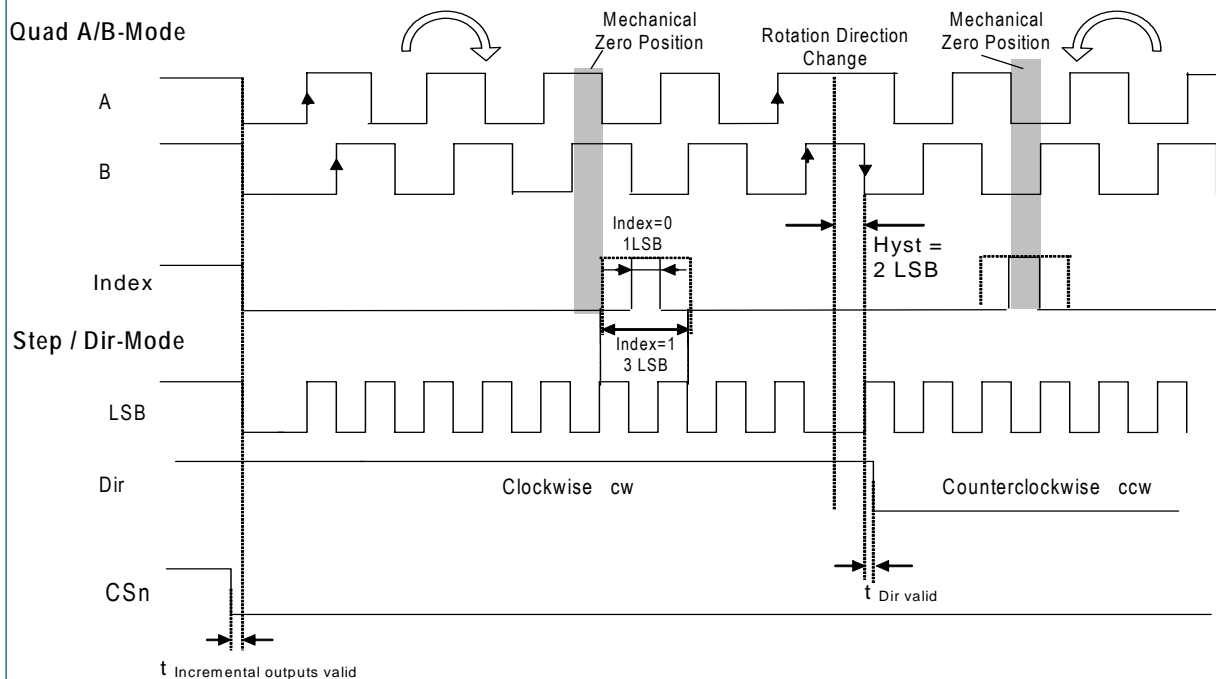

Figure 7: Incremental output modes
Figure 7 shows the two-channel quadrature as well as the step / direction incremental signal (LSB) and the direction bit in clockwise (CW) and counter-clockwise (CCW) direction.